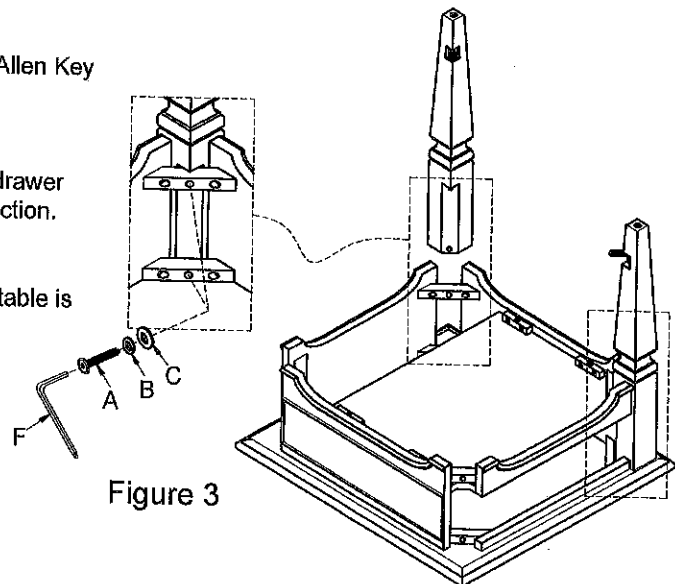

Figure 3
3. Attach two legs on the table by using Flat washer (C), Lock Washer (B), Bolt (A) with Allen Key (F). (See Figure 3).